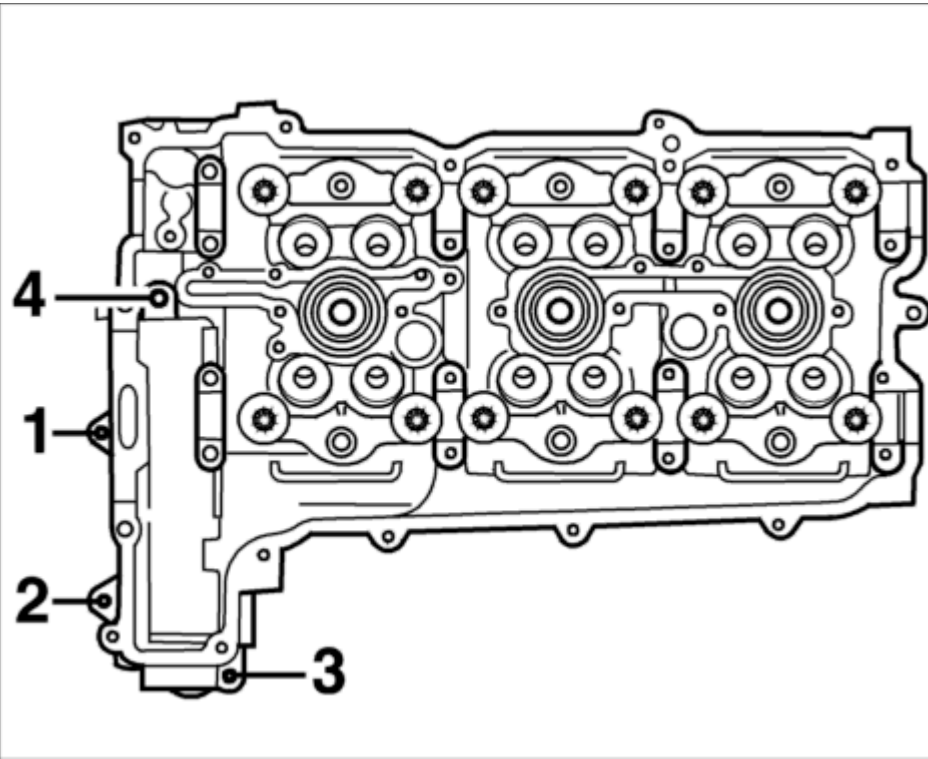

Fig. 175: External cylinder head screwed connection
5. Screw in and tighten four Torx screws with M6 x 30 captive washers (10.9) **-1-4-** at the chain slot. Use of a magnetic bit is recommended so that the screw to be fitted in the slot **-Item 4-** cannot fall into the crankcase. --> **Tightening torque: 13 (9.5 ftlb.) Nm** . See **Fig. 175**.